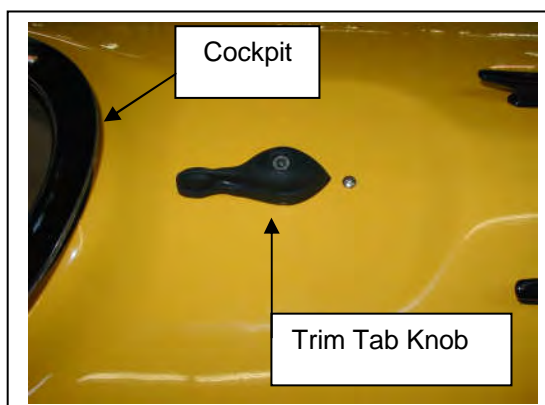

Fig. 3 – Completed Trim Tab Knob.
a. Once the Foot Controls are mounted, accurately determine the location where you want the Trim Tab. It should go on a flat portion of the front deck within easy reach from the cockpit. The Trim Tab will be mounted under the deck, with only the Knob above deck. (Fig. 3)